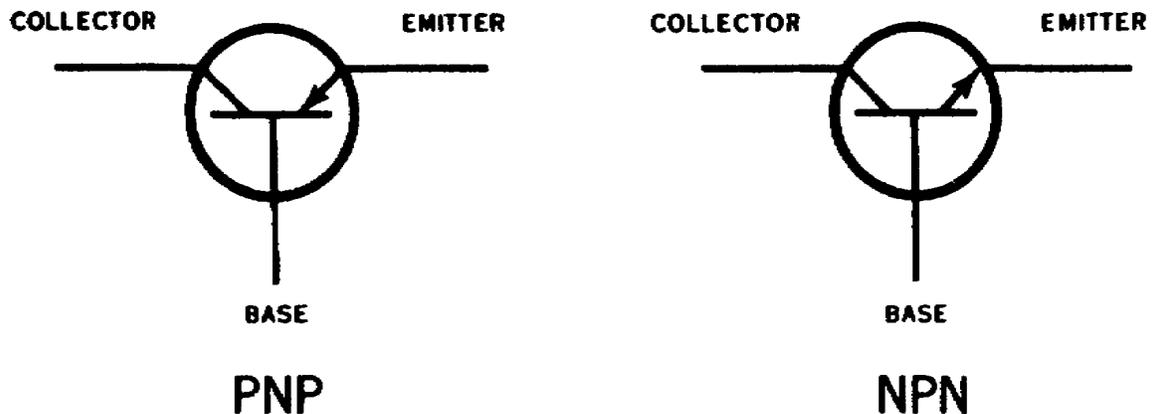

Figure 118. Transistor symbols.
31. **Transistor Triode Symbols.** Figure 118 shows the symbols used for transistor triodes. In the PN-P transistor, the emitter-to-collector current carrier in the crystal is the hole. For holes to flow internally from emitter to collector, the collector must be negative with respect to the emitter. In the external circuit, electrons flow from emitter (opposite to direction of the emitter arrow) to collector.